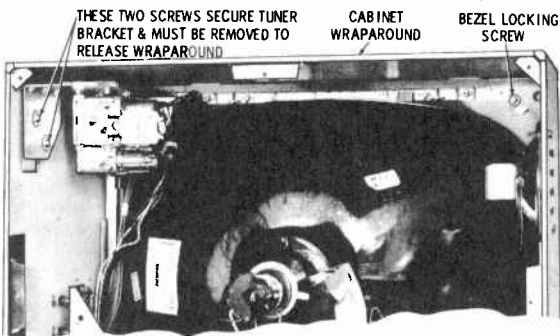

FIGURE 3B.
DISASSEMBLY OF CABINET WRAPAROUND is continued by removing the two (2) screws at upper left-hand corner which holds tuner bracket to side panel. Speaker leads should be unplugged at this time. (See Figure 3B.)